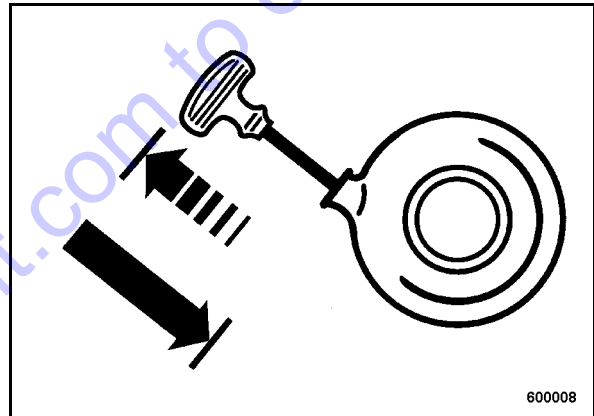

Fig. 21
- Slightly pull the starter handle (Fig. 21), until resistance can be felt (compression pressure), but do not pull out completely.